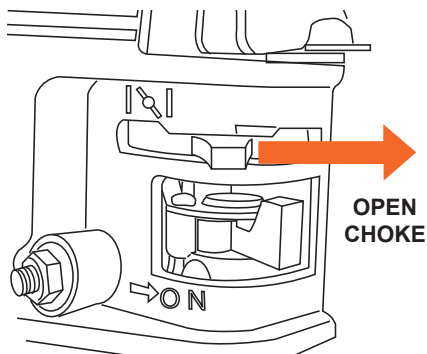

Figure 4
6. After the engine warms up and starts running normally, move the choke lever to the RUN position (see Figure 4).